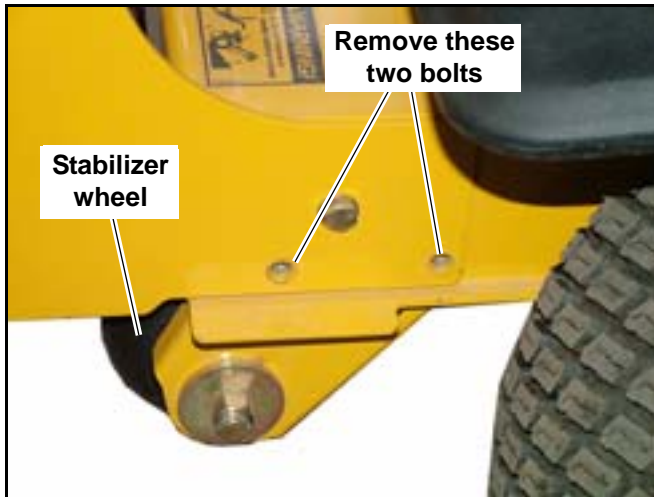

Figure 3-9
5. Remove the two lower bolts on each of the stabilizer wheels and attach the two catcher brace bases using the hardware shown. Fig. 3-9 & Fig. 3-10